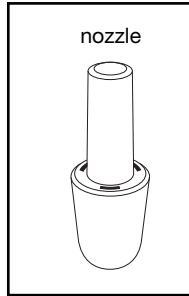
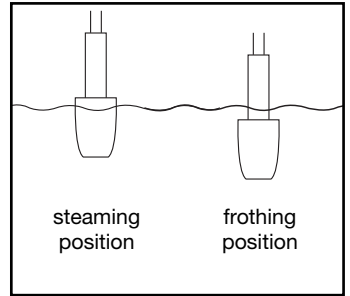

Fig. 11
Fig. 12
4. Immerse the black frother nozzle into the pitcher with the milk so that the lower part of the nozzle is completely covered in milk (fig. 12, frothing position). The tip of the nozzle should not hit the bottom of the pitcher.
The tip of the black frothing nozzle has three visible slots on top (fig. 11). If the three slots are immersed into the milk, the steaming action will create froth (for cappuccino). If the three slots are above the milk level, the frother will inject steam into the milk without or very little froth (for latte) (fig. 12).